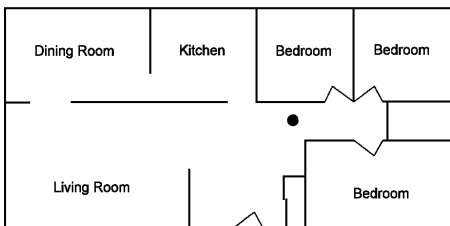

Figure 1: A SMOKE ALARM SHOULD BE LOCATED BETWEEN THE SLEEPING AREA AND THE REST OF THE FAMILY LIVING UNIT.
*Where to Locate the Required Smoke Alarms in Existing Construction.* The major threat from fire in a family living unit is at night when everyone is asleep. The principal threat to persons in sleeping areas comes from fires in the remainder of the unit; therefore, a smoke alarm(s) is best located between the bedroom areas and the rest of the unit. In units with only one bedroom area on one floor, the smoke alarms should be located as shown in Figure 1.